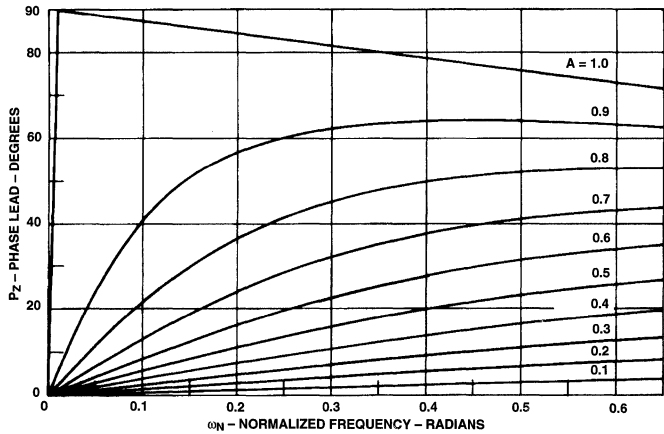

Figure 13. Phase Lead Contribution of the Zero Term.
4. On Figure 13, find the point where the normalized, desired gain crossover frequency (ω_{NC}') and the remaining phase lead $[P_z(\omega_{NC}')]$ intersect. Estimate the value of the term (A) at this point.